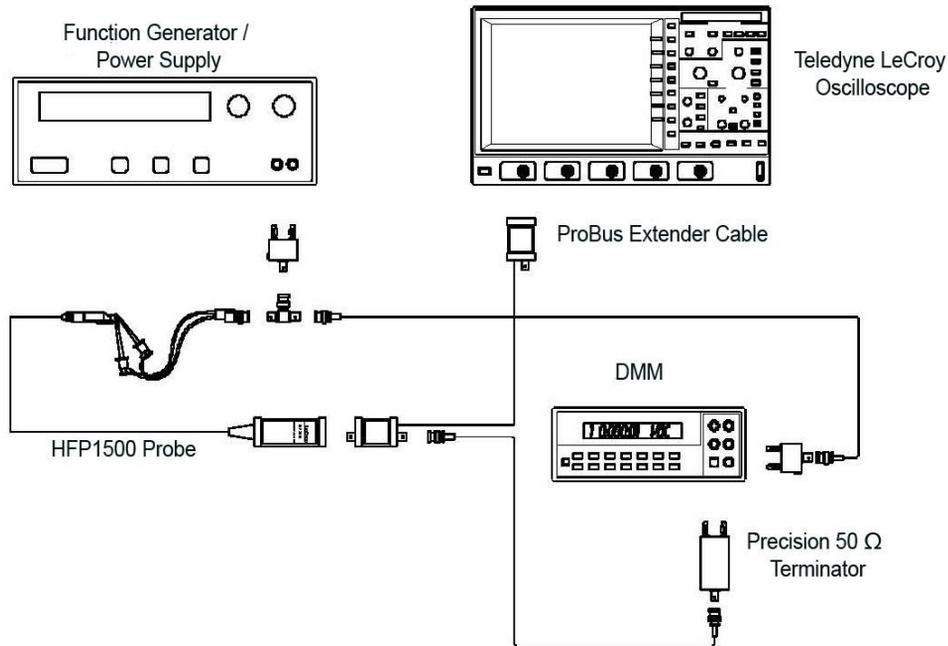

Figure 6 Attenuation Accuracy Test Setup
1. Connect the BNC end of the BNC to mini-grabber cable to a female end of the BNC tee adapter. (Refer to Figure 6 Attenuation Accuracy Test Setup).